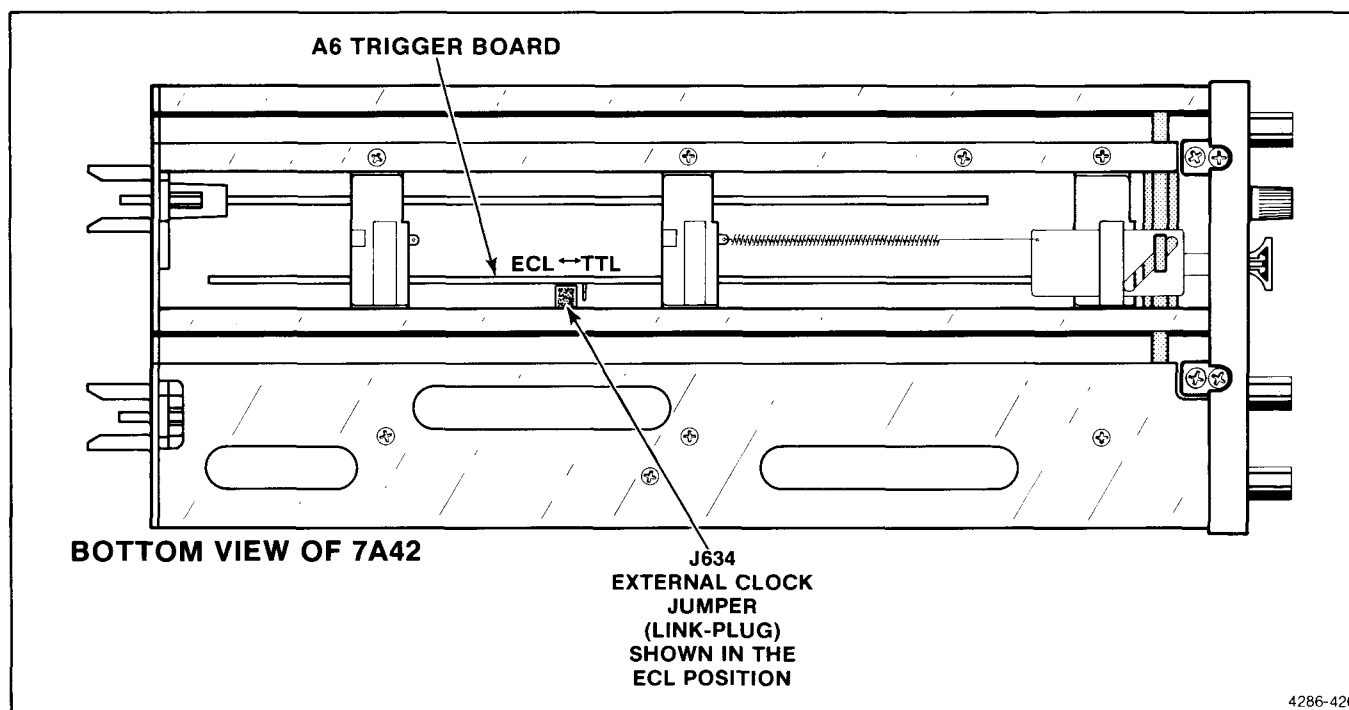

Figure 4-6. Location of J634 External Clock Jumper (link-plug) on the A6 Trigger Board.
First, remove the 7A42 from the oscilloscope mainframe. Then move the J634 External Clock Jumper (link-plug) to the "ECL" position, as shown in Figure 4-6. Replace the 7A42 in the oscilloscope mainframe.
- ff. Remove the 7A42 from the oscilloscope mainframe and move the J634 External Clock Jumper (link-plug) from the ECL position to the TTL position. Refer to Figure 4-6. Reinstall the 7A42 in the oscilloscope mainframe, and turn the oscilloscope mainframe Power back on.
- Turn the oscilloscope mainframe Power off. Remove the 7A42 from the oscilloscope mainframe. Move the J634 External Clock Jumper (link-plug) to the TTL position. Refer to Figure 4-6. Replace the 7A42 in the oscilloscope mainframe, and turn the Power on.